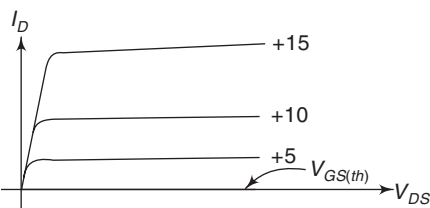
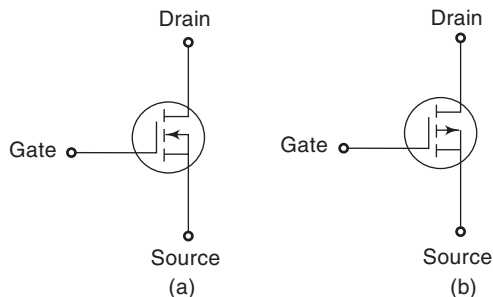

Fig. 7.53 Drain Curves for an Enhancement Type MOSFET.
Fig. 7.54 For P7.43 Enhancement Type MOSFET Symbols. (a) *n*-Channel (b) *p*-Channel.
Figure 7.53 shows a set of drain curves for an enhancement type MOSFET. The lowest curve is the $V_{GS(th)}$ curve. When V_{GS} is *less than* $V_{GS(th)}$, the drain current is ideally zero and the MOSFET is OFF. When V_{GS} is *greater than* $V_{GS(th)}$, drain current appears. The larger V_{GS} is, the greater the drain current. The symbol for enhancement type MOSFET, Fig. 7.54, has a broken channel line to indicate the *normally* OFF (NO) condition. In the case of a *p*-channel MOSFET, the threshold voltage is negative and the current is in a direction opposite to that of an *n*-channel device.